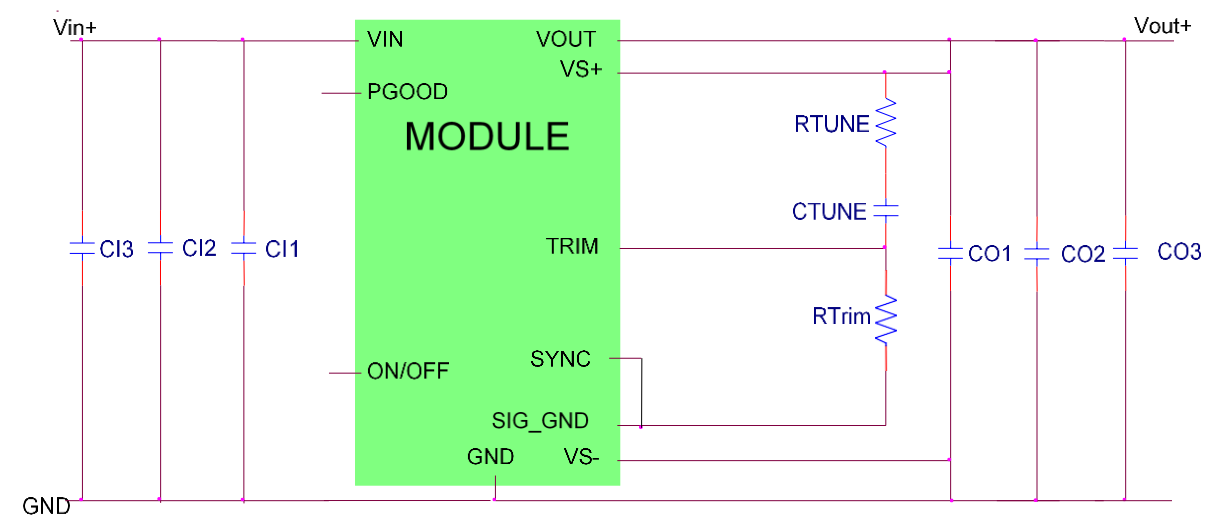

Figure 7. Typical Application Circuit of the IND072 regulator.
- **Minimize loop area** - To provide the most effective filtering and avoid noise coupling from a regulator to other parts of the circuit, it is recommended that the loop area for both power and signal traces to the regulator be minimized. To minimize input noise, it is necessary to reduce the parasitic inductance of the input loop significantly, by reducing the loop area. Using a high frequency, low ESR and ESL bypass capacitor, close to the regulator module input pins reduces the area of this loop significantly. Figure7 shows a typical application circuit incorporating these recommendations. For reducing high frequency switching noise at the input and output of the module, 0.047 μ F (0402), 0.1 μ F (0402), etc. small package ceramic capacitors (C11 and C01 in schematic) should be placed at the input and output of the module. Capacitors used for minimizing the ripple component (C12, C13, C02 & C03) are termed as bulk capacitors with capacitance needed being in the order of tens or hundreds of μ F.